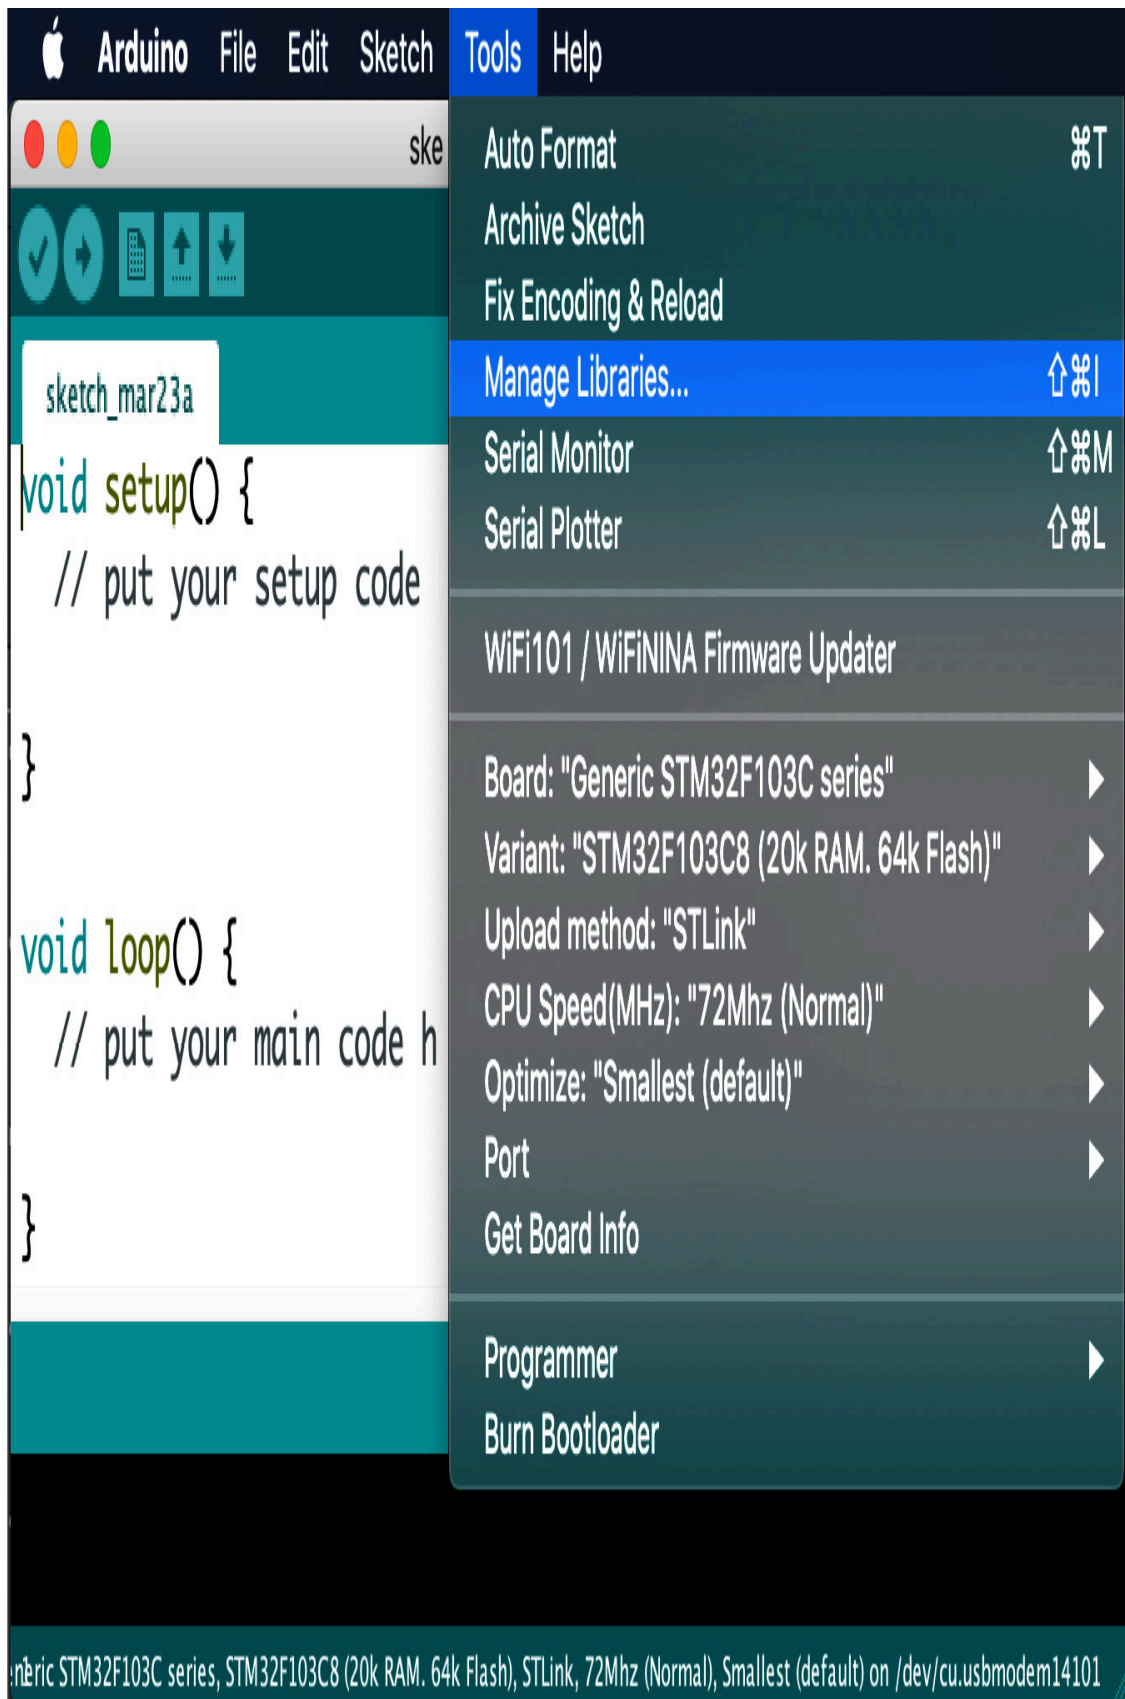

Figure 9.8 – Library manager
1. As the first step, we are going to install the **OneWire** library. Open the Arduino IDE, and then go to the **Tools** menu and then **Manage Libraries** (see *Figure 9.8*):